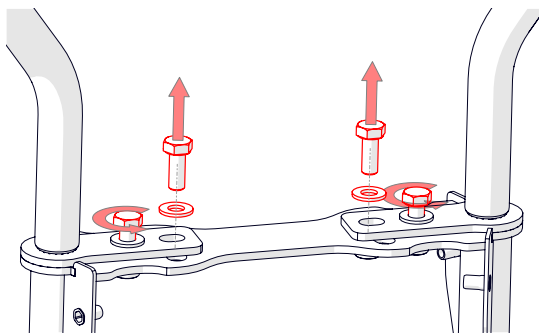

Fig.12F - Loosen outer bolts, remove inner bolts (top console removed for clarity).
5. Each handlebar is secured with two bolts. For each handlebar, loosen (but not remove) the outer bolt but fully remove the inner bolt [13 mm spanner] (Fig.12F).